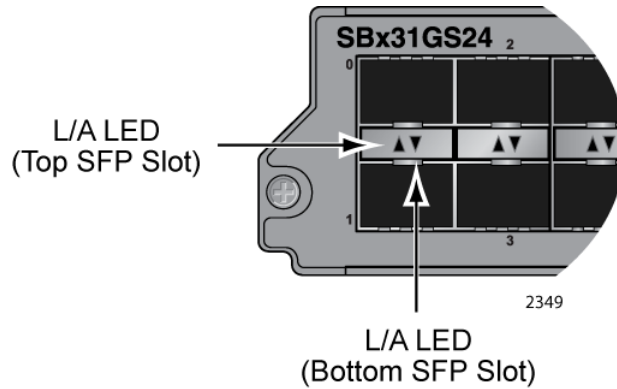

Figure 20. Port LEDs on the AT-SBx31GS24 SFP Line Card
**LEDs** The SFP slots on the AT-SBx31GS24 SFP Line Card have one LED each, as shown in Figure 20 on page 43 and described in Table 10 on page 43.